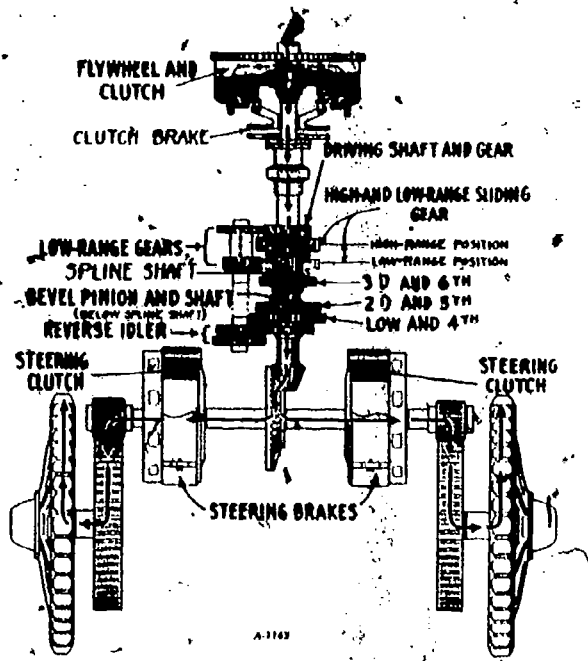

Fig 2-40: Power flow in a crawler-tractor.
- (1) Comparison to wheeled vehicle. Power trains of tracklaying or crawler equipment (fig 2-40) perform the same function as those on wheeled vehicles. The difference is that crawler power trains are designed to provide greater gear reduction, withstand more rugged treatment, and are heavier and sturdier in construction. Some track vehicle power trains do not use propeller shafts and differentials. This reduces power train length, and power flows directly from the engine, through the clutch and transmission, to the bevel drive gear. When there is no propeller shaft or universal joints the components must be kept tight and aligned. The power is distributed to both tracks through the steering clutches to the sprocket drive (final drive), the sprocket, and finally to the track chain.